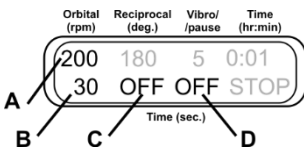

Fig. 4.
- 6.9.1. **Orbital motion.** Set the speed (fig. 4/A, 20–250 rpm) and time (fig. 4/B, 1–250 s) of Orbital motion. Turn off Reciprocal motion (fig. 4/C) by setting time of the cycle to zero (OFF). Turn off Vibro motion (fig. 4/D) by setting time of the cycle to zero (OFF).